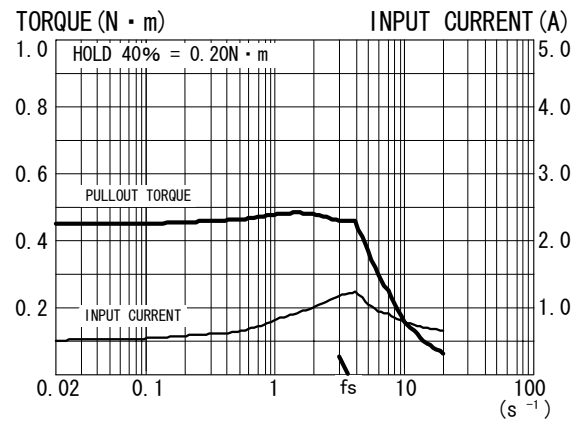

Fig. 5
| | PK566-A (B) | 0.72 | 0.75 | F | Fig. 5 |